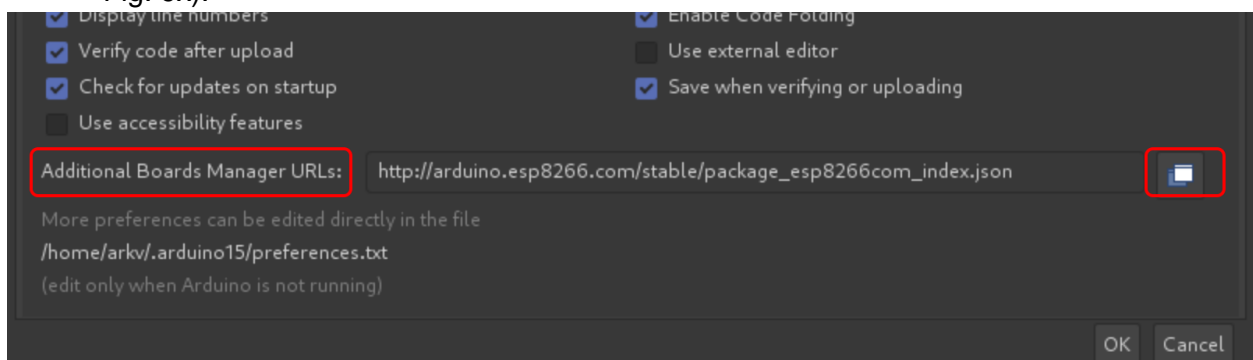
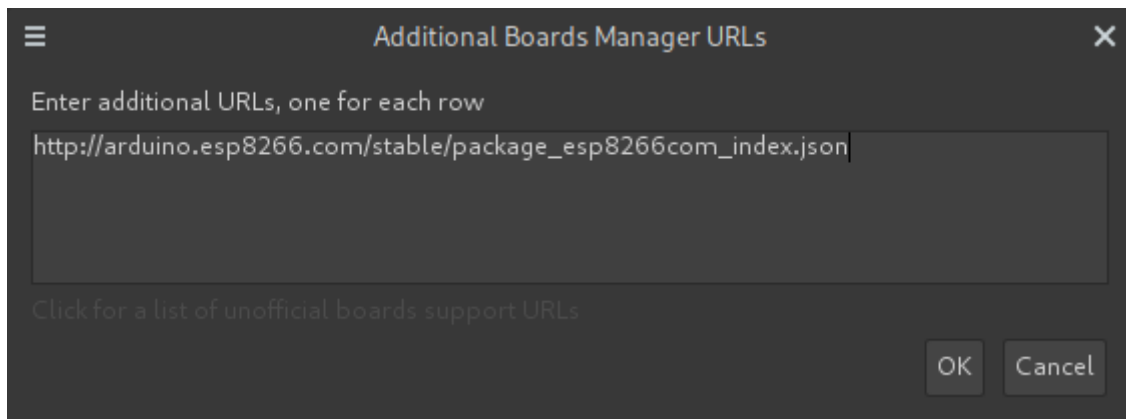

Figure 8x. Boards manager option
Figure 9x. Adding support for ESP8266 boards
- Locate field: “Additional Boards Manager URLs:” and press the icon on the right side (see Fig. 8x). After pressing the icon, a new window should appear (see Fig. 9x).
- In the text field of the window enter the following line and press “OK” button (see Fig. 9x):